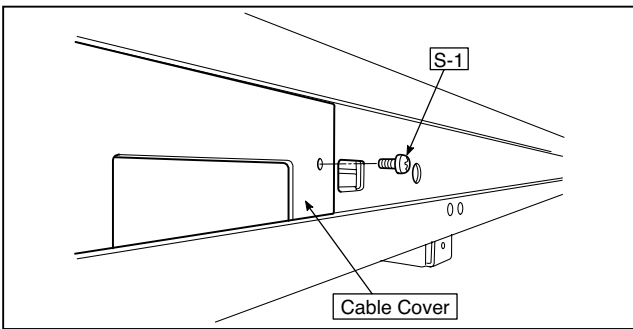

Fig.11
### 10) Remove the Main Board Assy. (See Figs. 11 and 12.)
- 1.Remove the "S-1" screws shown in the figure 11 and then remove the Cable Cover.